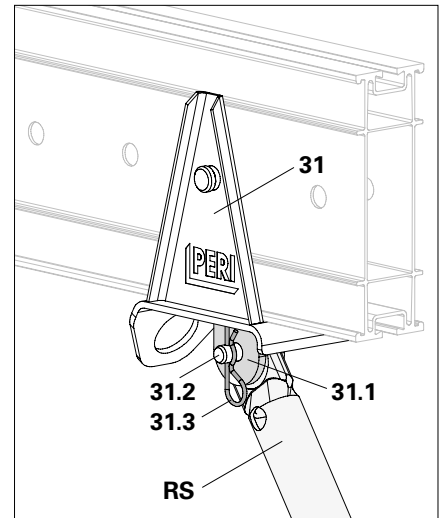

Fig. A8.02
- Connect Push-Pull Prop (RS) and connection lugs (31.1) with bolts (31.2) and cotter pins (31.3). (Fig. A8.02)